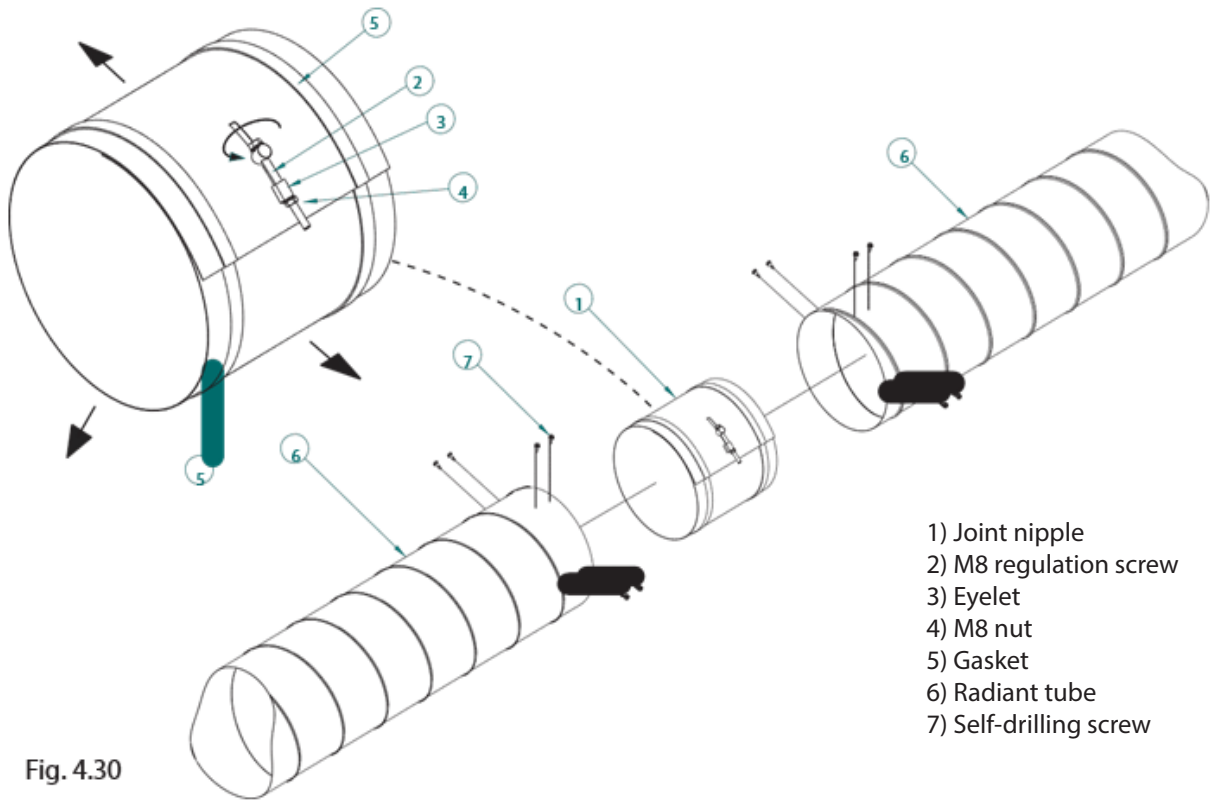

Fig. 4.30
- 3) Turn the hexagonal screw clockwise, allowing the nipple to increase its diameter. It will expand inside the inner surface of the two emitter tubes (see details in figure 4.30)
- 3) Turn the hexagonal screw in a clockwise sense, allowing to the nipple to increase its diameter. It will expand into the inner surface of the two emitter tubes (see details in figure 4.30)